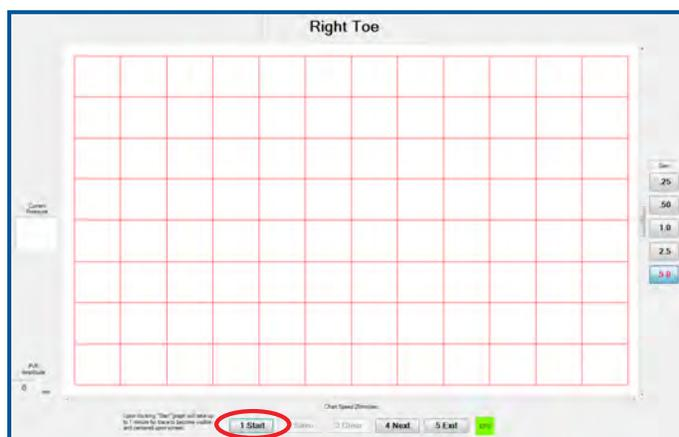

FIGURE 1.27 - Right Toe - “Start” Button
32. Continue to PVR testing on the toes. (Pressure testing for the Left toe is completed following PVR testing.) Toe PVR testing follows the same procedure as the other PVR segments. Click “Start”, or press 1 (Figure 1.27).